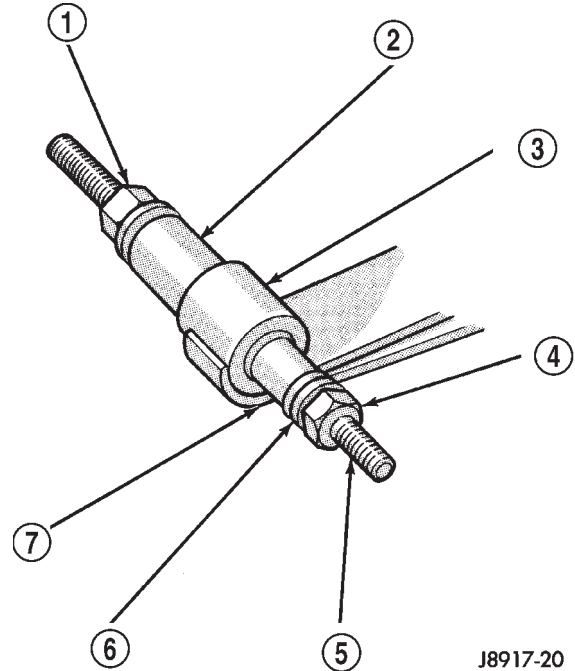

Fig. 3 Spring Eye Bushing Removal
(1) Assemble tools shown (Fig. 3). Tighten nut at the socket wrench end of the threaded rod until the bushing is forced out.
(2) Assemble and align the bushing installation tools.
(3) Align the bushing with the spring eye or shackle eye and tighten the nut at the socket wrench end of the threaded rod. Tighten until the bushing is forced into the spring eye.